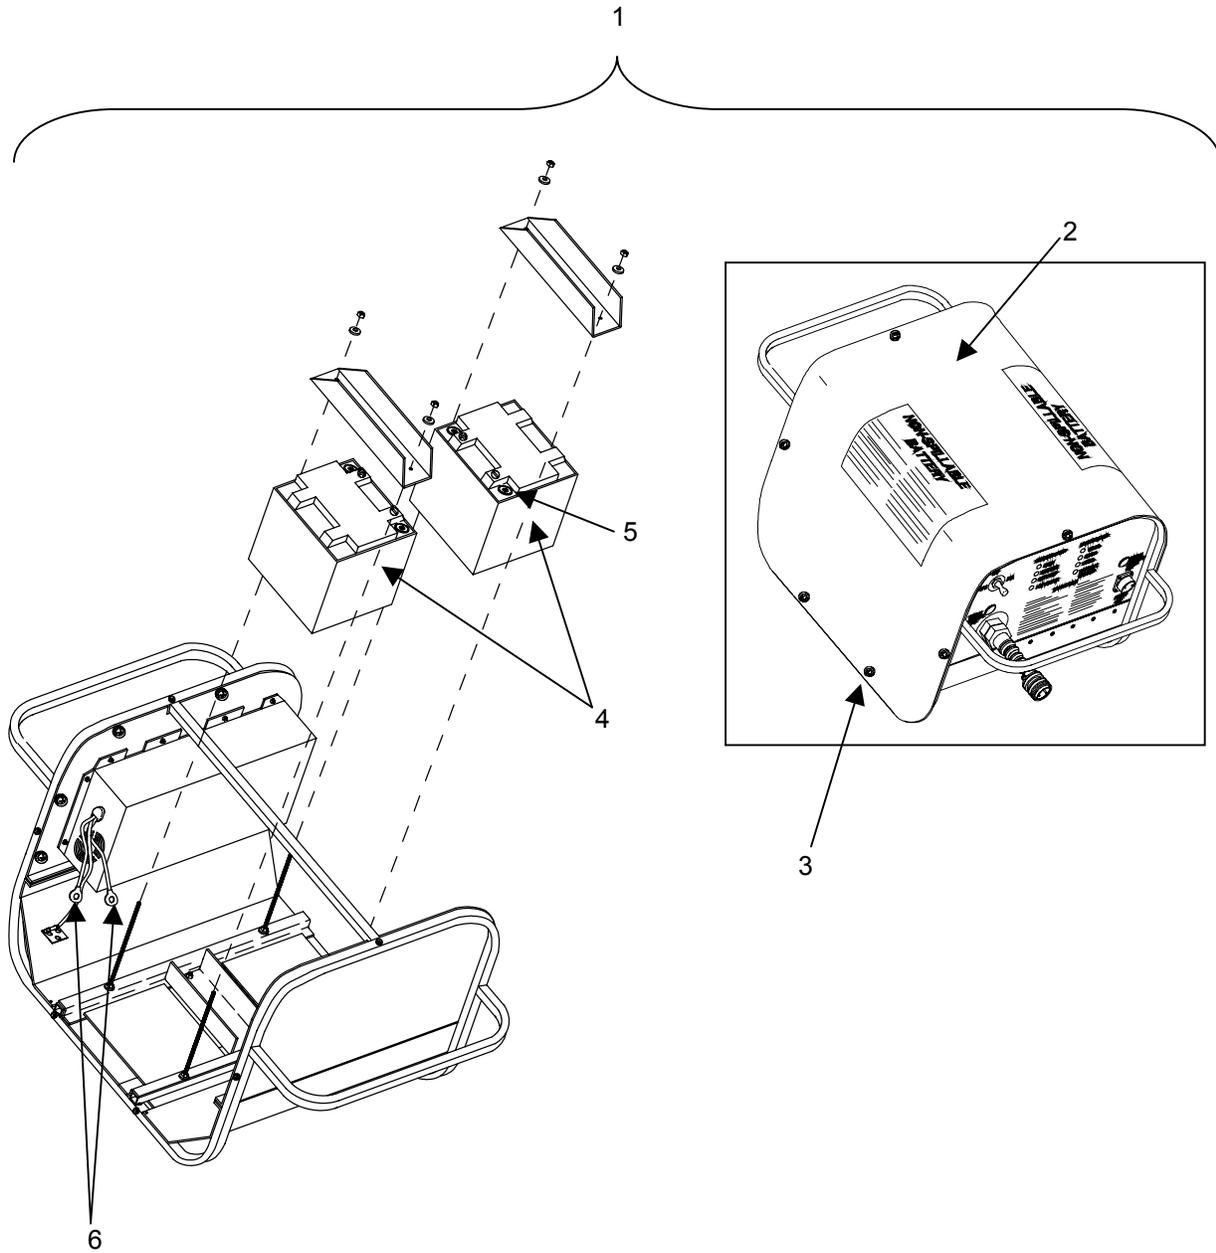

Figure 1. Inspect the Batteries
4. Disconnect the power lead terminals (**figure 1, item 6**) and clean as necessary.
5. Connect the power lead terminals (**figure 1, item 6**).
6. Install the outer cover (**figure 1, item 2**) and retain with the cover retaining screws (**figure 1, item 3**).